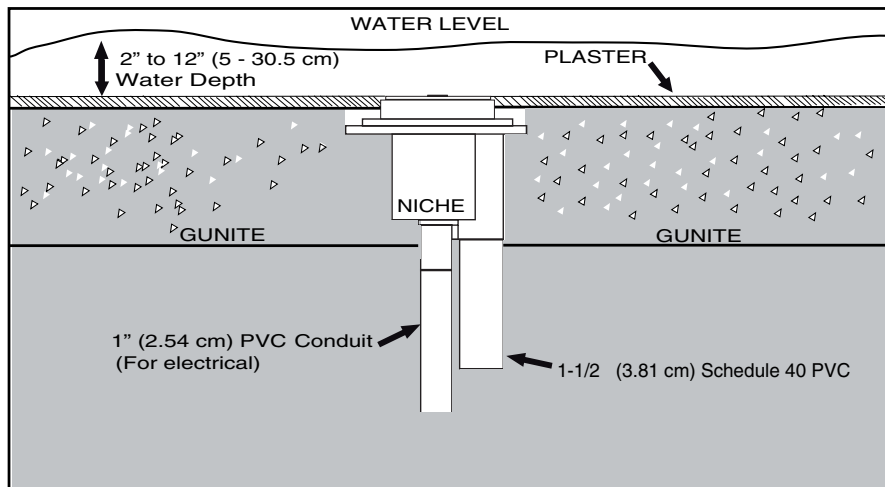

Figure 1.
- The Junction Box and the low voltage transformer is located at least 4 inches (10.1 cm) above ground level or 8 inches (20.3 cm) above maximum water level, whichever is higher. The Junction Box must be at least 48 inches (1.2 m) from the edge of the pool. See Figure 1 on page 6.
2. Install the ColorVision light niche in the pool or spa floor, see Figure 1 on page 6.
4. Apply plaster up to the outer edge of the gunite cover. The gunite cover should be the only exposed part of the niche after plastering, see Figure 1 on page 6.
4. Install the ColorVision light niche in the pool or spa floor. Set the niche such that the pool floor is flush with the top of the spacer ring. See Figure 1 on page 6. The niche is ABS so use ABS to PVC cement to connect the water line and electrical conduit to the niche.
- The Junction Box and the low voltage transformer is located at least 4 inches (10.5 cm) above ground level or 8 inches (20.3 cm) above maximum water level, whichever is higher. The Junction Box must be at least 48 inches (1.2 m) from the edge of the pool. See Figure 1 on page 6.